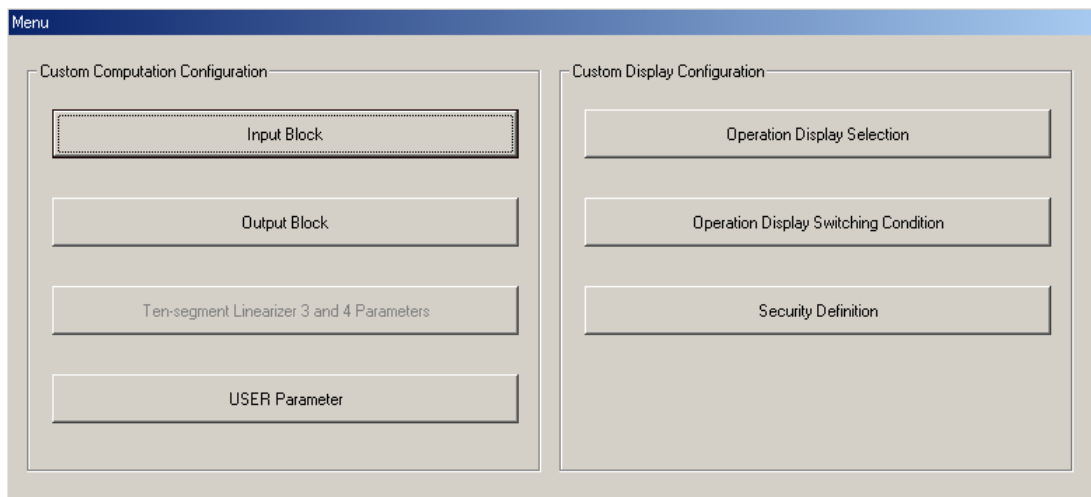

Figure 3.1.5 [Custom Computations Configuration Menu] Dialog Box
(9) Click the <OK> button.
(10) The [Custom Computation Configuration Menu] dialog appears. (Fig. 3.1.5)